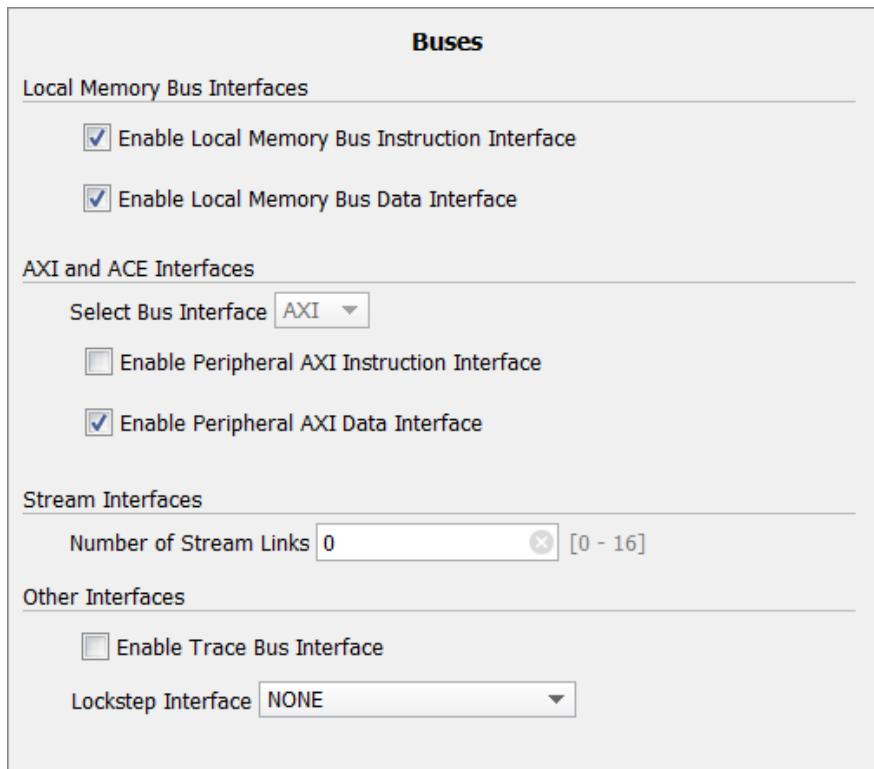

Figure 4-13: MicroBlaze Configuration Wizard Buses Page
- **Enable Local Memory Bus Instruction Interface:** Enables LMB instruction interface. When this instruction is set as shown in Figure 4-13, page 97, the Local Memory Bus (LMB) instruction interface is available. A typical MicroBlaze system uses this interface to provide fast local memory for instructions. Normally, it connects to an LMB bus using an LMB Bus Interface Controller to access a common Block RAM.